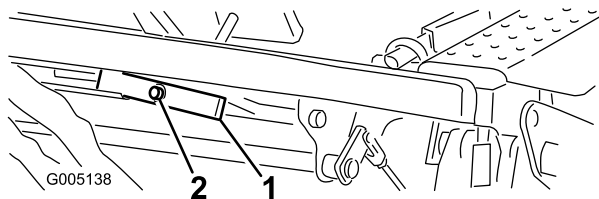

Figure 45
1. Loosen the nut on the back side of the lift pivot (Figure 45).
2. Rotate the eccentric screw (Figure 45) to raise or lower the lift pivot spring, leveling the lift pivot and pedals.